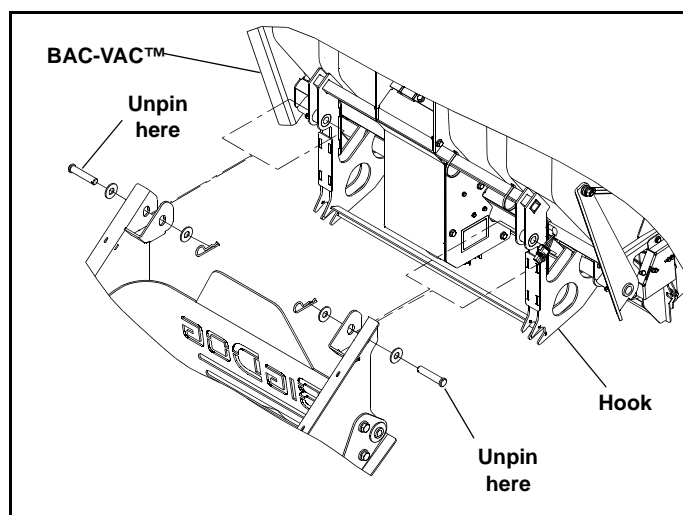

Figure 4-4
4. Unpin the BAC-VAC™ assembly from the side mount brackets and pivot it until the lower hooks clear the mount spacer. Figure 4-4